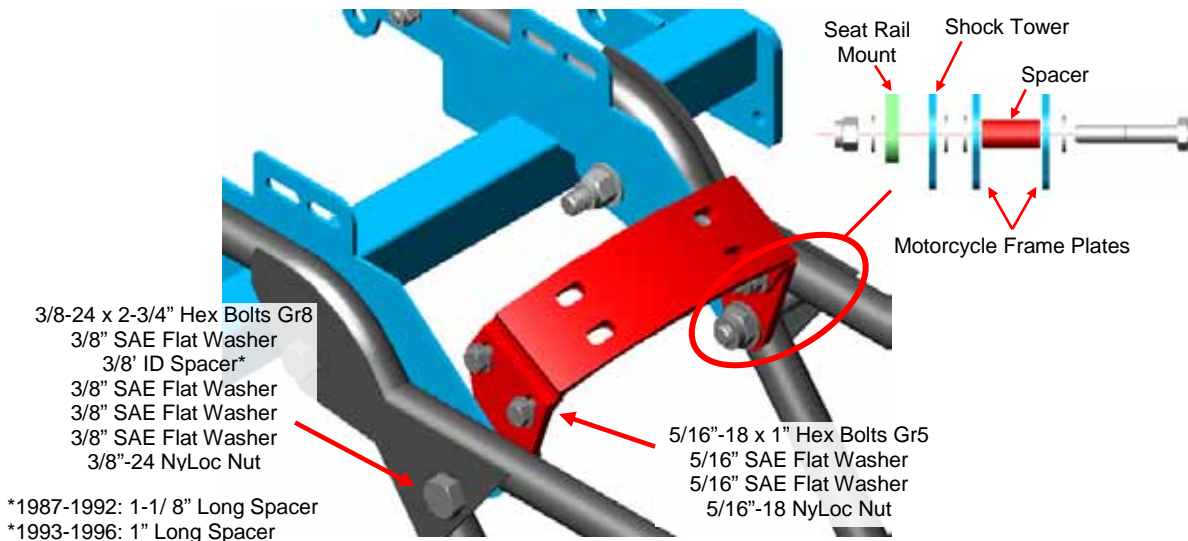

Figure 34
b. Install Seat Rail Mount. Use hardware as noted in illustration. Figure 34